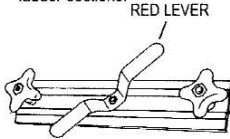

figure 3
Do not overtighten. Replace plastic tips. (fig. 3)
3. Locate both carriers and loosen red lever. (fig. 3)